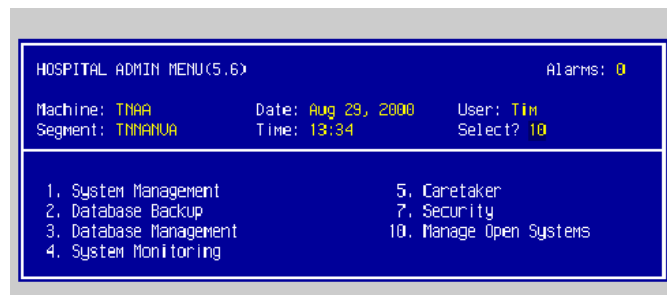

Figure 2: Hospital Administration Menu
3. Select option 10, [**Manage Open Systems**]. See Figure 2.